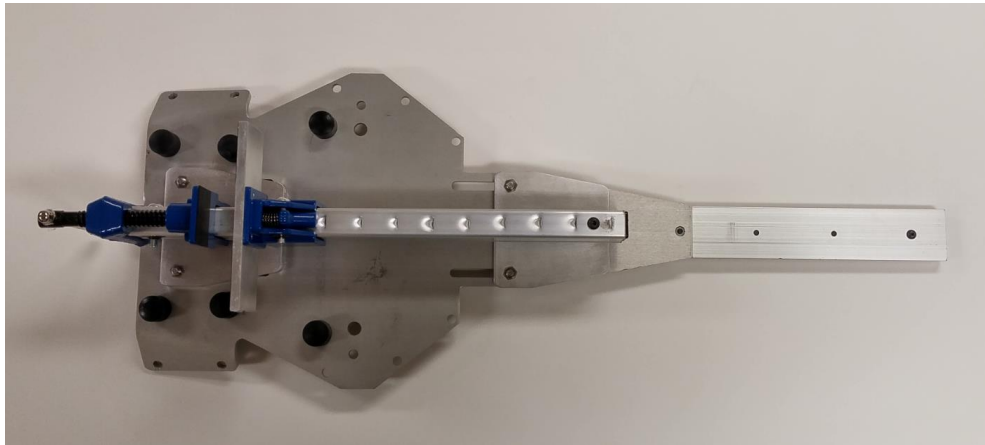

Figure 12
- 1) Secure the clamping adapter to the microwave mount main body front and rear slides using 4 included thumbscrews. The clamp fine adjustment lever should point to the rear of the mount. **See Figure 12**